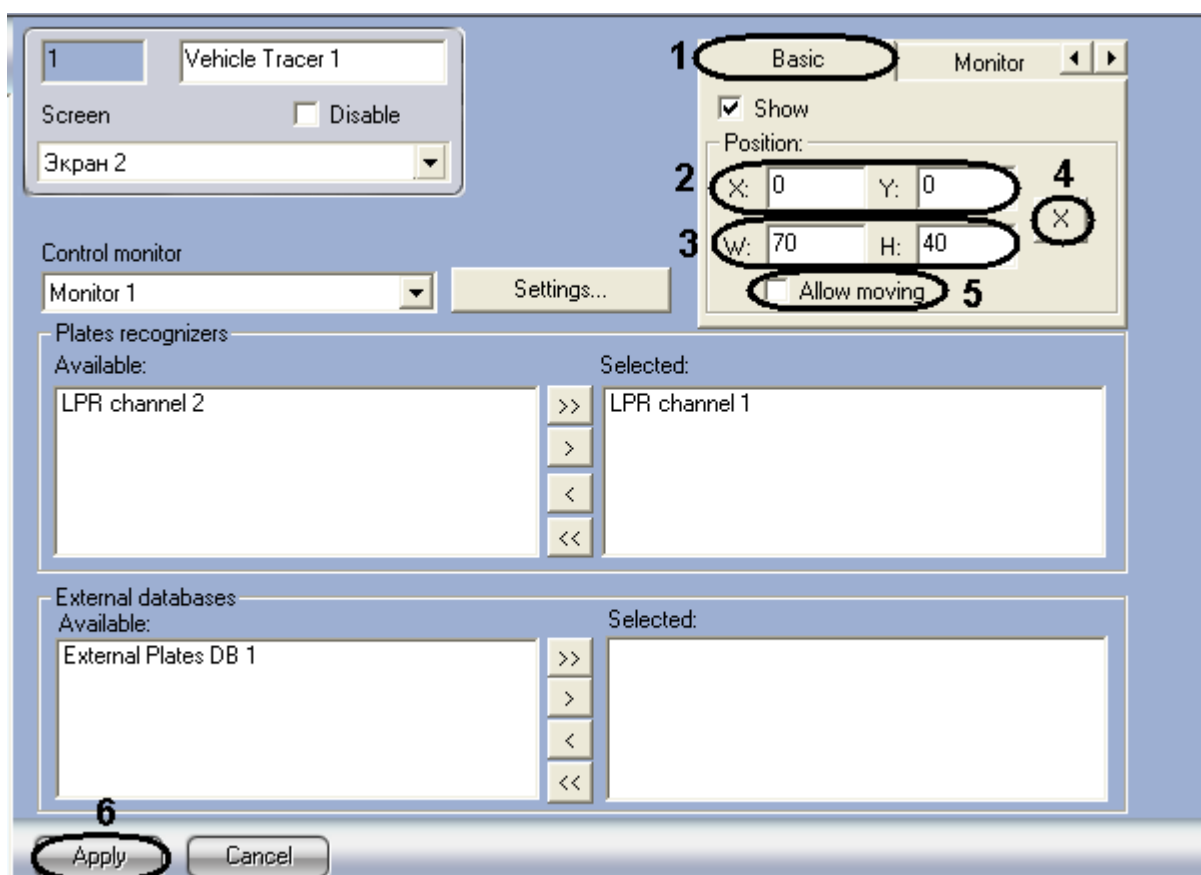

Fig. 7.9—2 Setting up the Vehicle tracer component position
1. Go to the Vehicle tracer settings panel (Fig. 7.9—2).
2. Go to the «Basic» tab (Fig. 7.9—2, 1).